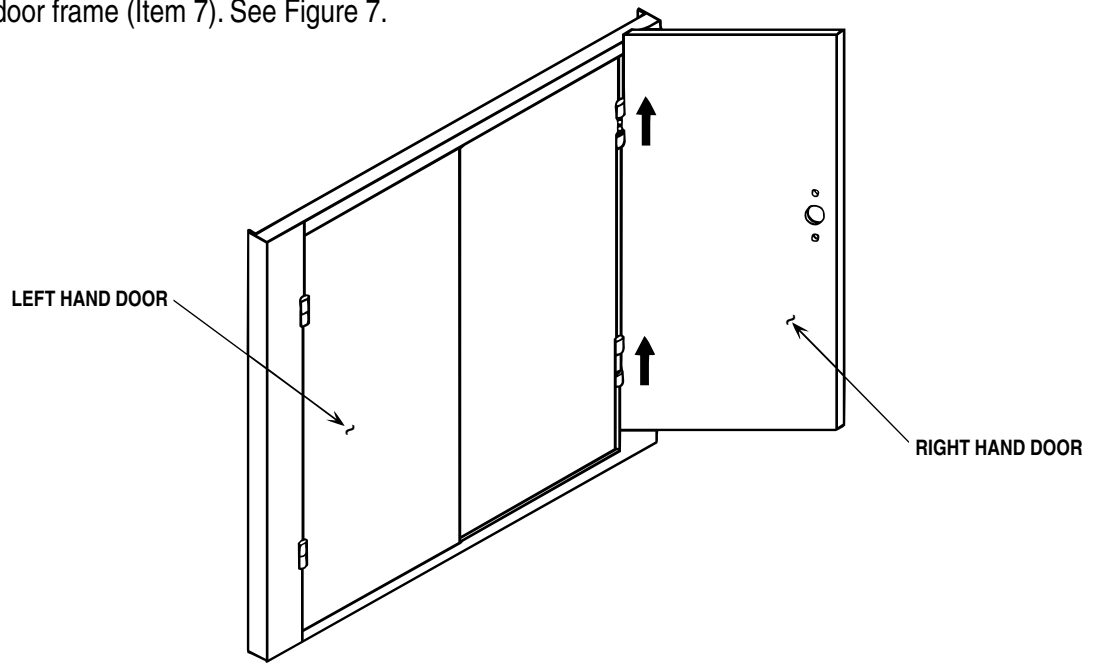

FIGURE 7
3. Remove doors from door frame (Item 7). See Figure 7.